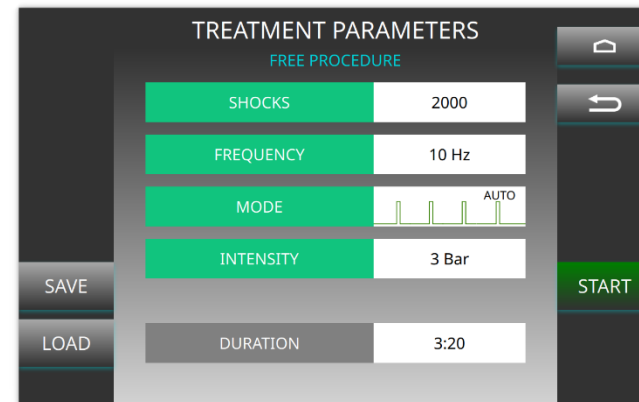

fig3
By pressing the FREE PROCEDURES button a screen appears (fig. 3) in which you can:
1. Select LOAD from the FREE PROCEDURES screen in figure 3;